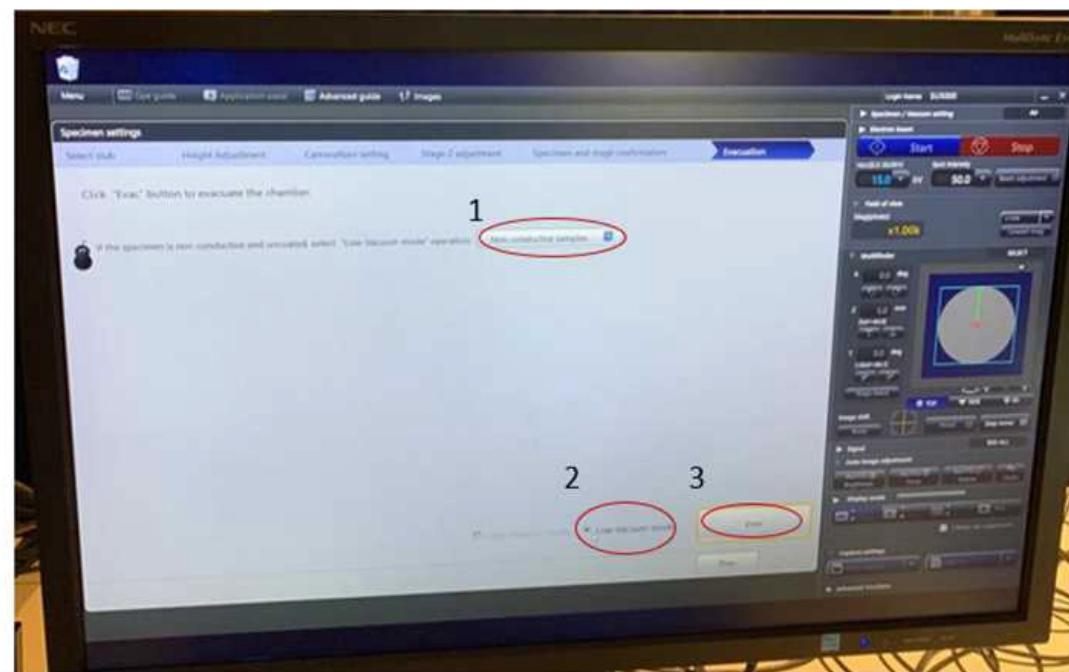

Figure 8. Evacuation
- The line from the central cross indicates the direction of the sample (Figure 8)